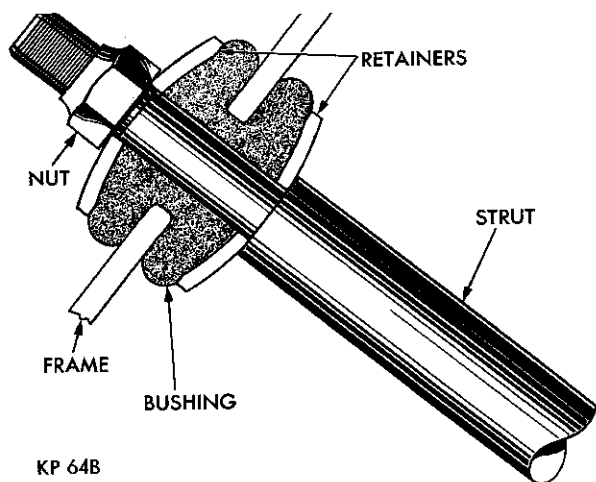

Fig. 16—Strut Bushing (Imperial)
(1) Remove the nuts, lockwashers, and bolts that attach the sway bar bushing housings to the struts, disconnect the sway bar from the struts.
(2) Remove the strut to lower control arm mounting bolts and nuts.
(3) Remove the nut and bushing retainer (Fig. 16) from the forward end of the strut at the crossmember.
(4) Slide the strut and inner bushing retainer from the bushing in the frame.
(5) Using a screwdriver, pry the bushing out of the front of the frame.